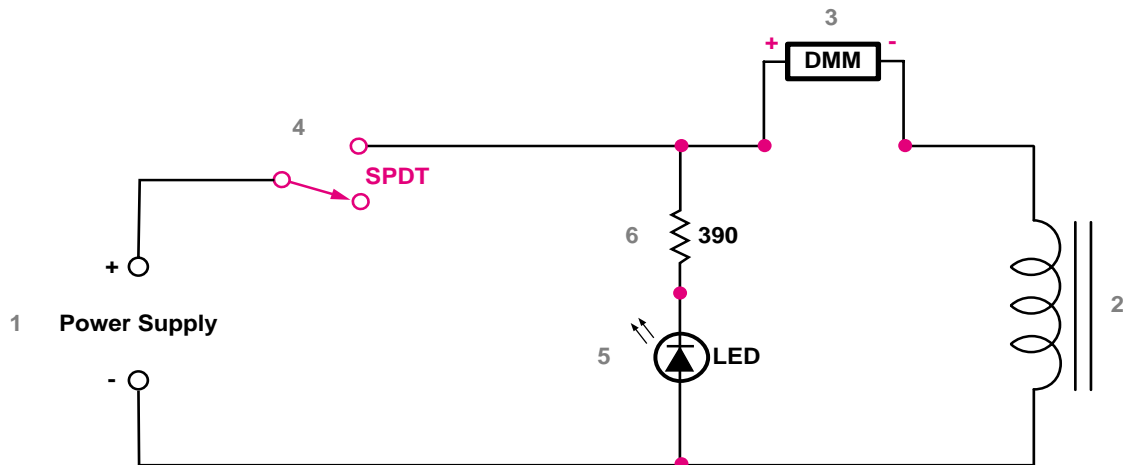

Figure 4
Figure 4 shows an inductor circuit containing (1) a DC power supply, (2) an inductor, (3) an ammeter, and (4) a switch. A parallel branch in the circuit contains (5) a **LED (light emitting diode)**, and (6) a carbon resistor.